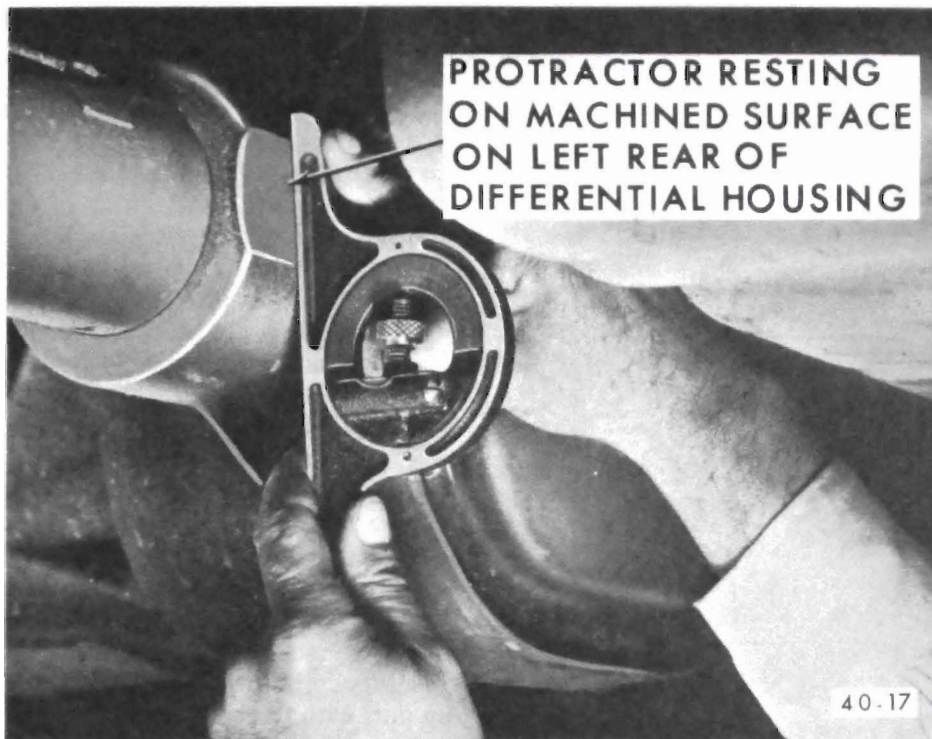

Figure 40-57 - Measuring Differential Assembly Angle
1. Hold protractor firmly against flat on left rear of differential. See Figure 40-57. Center bubble in sight glass and record measurement from vertical in degrees.